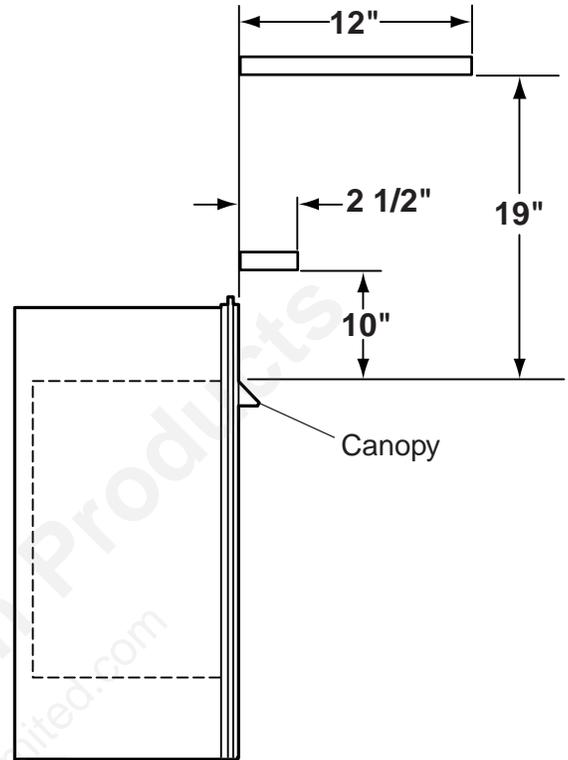

Figure 21 - Minimum Mantel Clearances
5. **Mantel clearances** — The canopy supplied with the unit must be installed. If a combustible mantel is installed. It must meet the clearance requirements detailed in *Figure 21*.